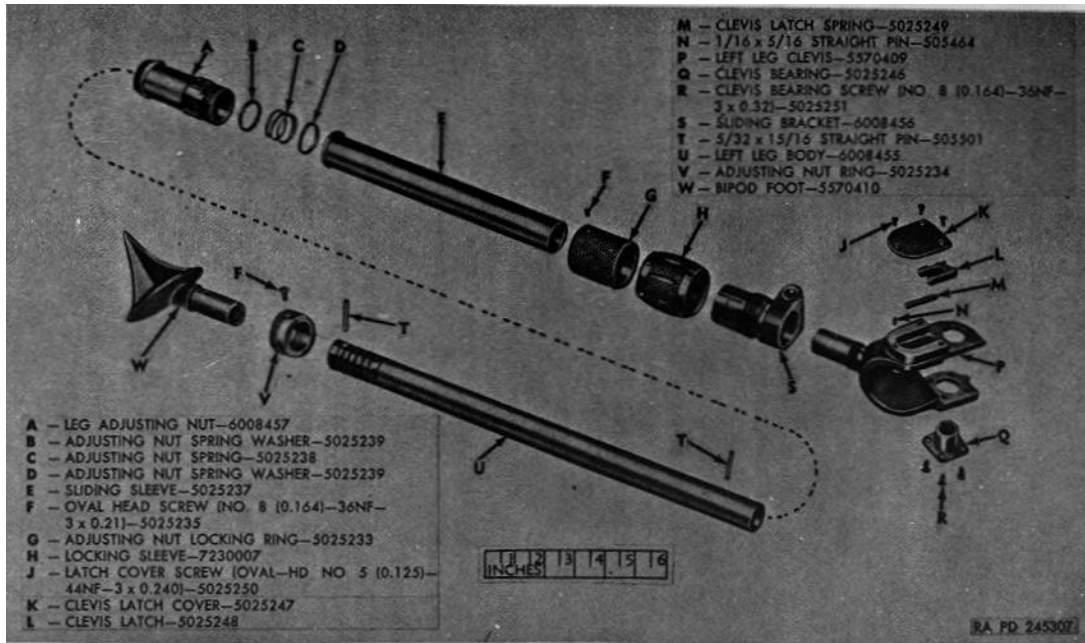

Figure 21. Left leg assembly 7230150-exploded view.
**The key letters shown below in parentheses refer to figure 21.**
- (1) If bipod foot and adjusting nut ring have been removed, install adjusting nut ring (V) (open end leading); then